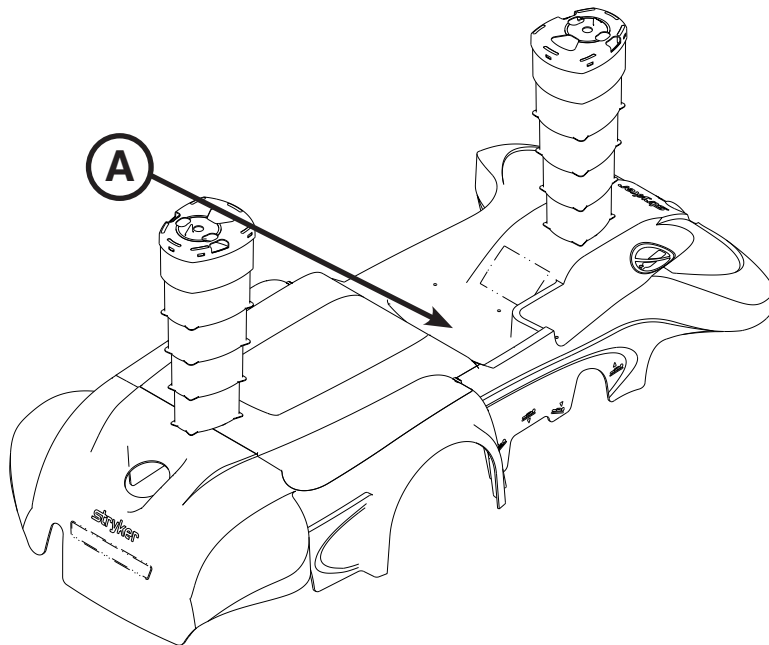

Figure 29: Base Hood Storage
You can store items in the base hood (A) as shown in Figure 29.